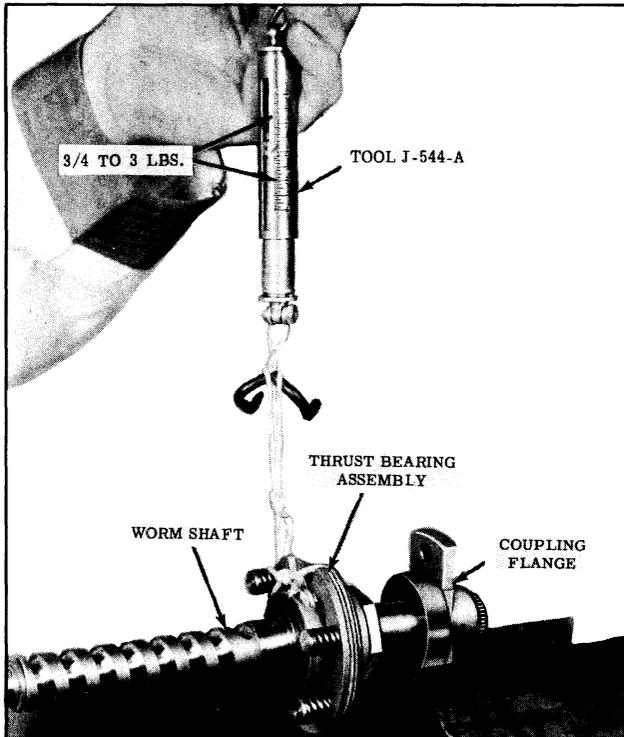

Fig. 5-54 Checking Thrust Bearing Preload
11. Tie a 3 ft. length of string on a thrust bearing centering spring and to spring scale J-544-A. Support the assembly in a vise, wrap string around center race 2 or 3 turns, and check preload as shown in Fig. 5-54. (Preload should be 3/4 to 3 lbs.)